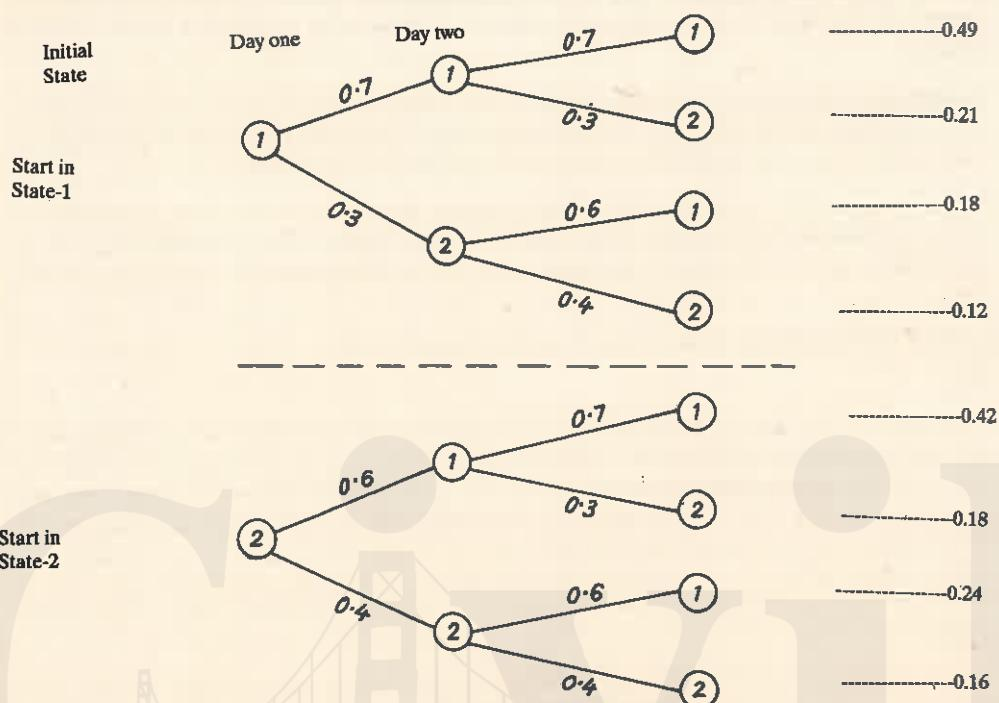

Fig. 18.4. Probability trees.
The process is represented in Fig. 18.4 by two probability trees whose upward branches indicate moving to state-1 and whose downward branches indicate moving to state-2.
- Suppose the machine starts out in state-1 (in adjustment), Table 18.1 and Fig. 18.4 show there is a 0.7 probability that the machine will be in state-1 on the second day. Now, consider the state of machine on the third day. The probability that the machine is in state-1 on the third day is 0.49 plus 0.18 or 0.67 (Fig. 18.4).
Refer to Fig. 18.4 (start in State-2)